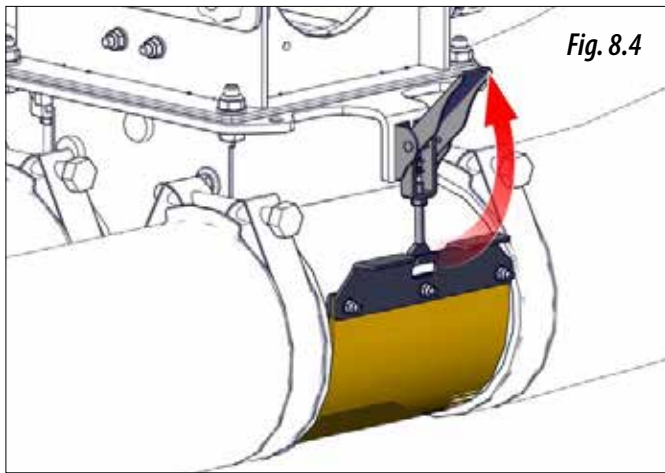

Fig. 8.4
- 1- Act on the 2 closures of each dispenser to open the rubber covers (Fig. 8.4)
- 5- When finished, the closing rubbers should be placed and secured by the quick fasteners (Fig. 8.4).